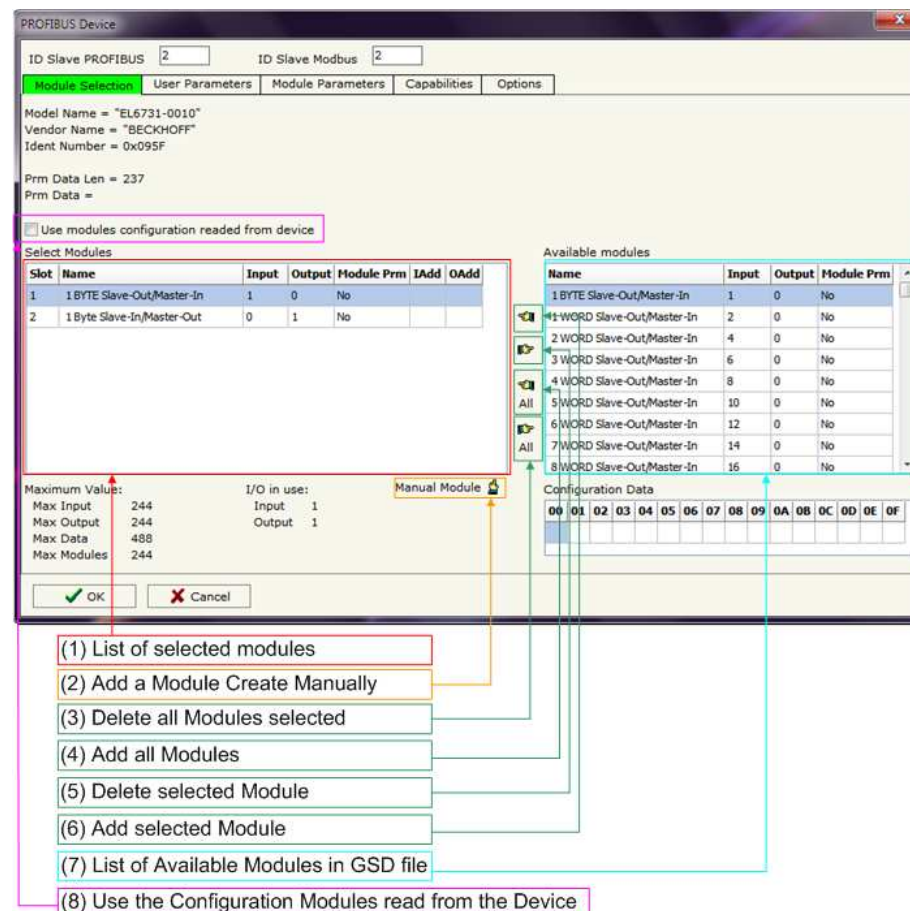

Figure 7: "PROFIBUS Device – Module Selection" window
The section "Module Selection" is used to select which Modules are present in the Slave (Fig. 7).
- Check the list of the Modules selected ("Select Modules") (Fig. 7, point (1)) and the list of Modules Available in GSD file ("Available Modules") (Fig. 7, point (7));
- Add a Module from the list of GSD file (Fig. 7, point (6));
- Remove a Module from selected list (Fig. 7, point (5));
- Add all Modules present in the GSD file (Fig. 7, point (4));
- Remove all Modules from selected list (Fig. 7, point (3));
- Insert a Module not present in the GSD file ("**Manual Module**") (Fig. 7 point (2)). For more info see the section "Manual Module" below;
- Enable the read of configuration directly from the PROFIBUS Slave ("**Use module configuration readed from device**") (Fig 7, point (8)). If this option is enable the configuration of the modules is discarded and the device read the correct configuration directly to the PROFIBUS slave.
To modify a Module inserted manually, is necessary to do a double click on the module to change in the "Select Module" list (Fig. 7, point (1)). It is possible to change only the module inserted manually.